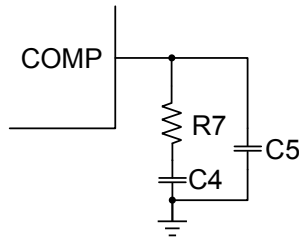

Figure 8: Compensation Network
The system has two important poles: one from the compensation capacitor (C4) and the output resistor of the error amplifier and the other from the output capacitor and the load resistor (see Figure 8). These poles can be calculated with Equation (14) and Equation (15):